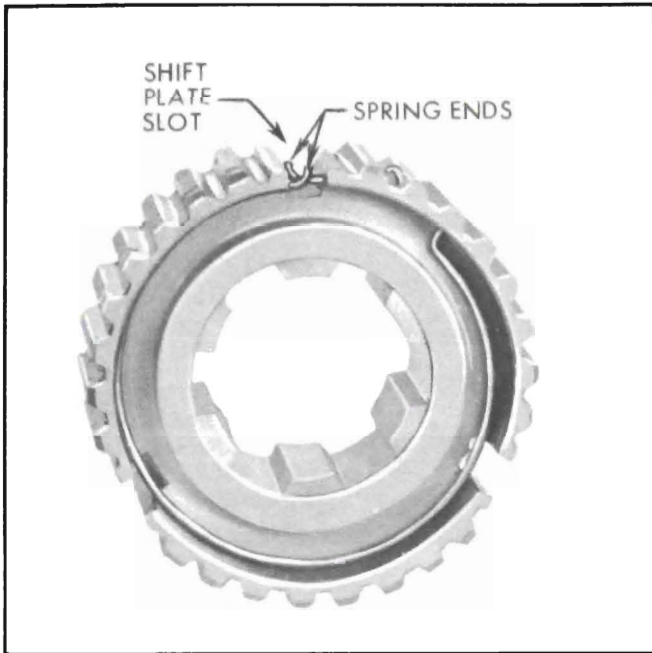

Figure 4-21—Installing Synchronizer Springs
1. Install springs solidly in recesses on both ends of synchronizer hub. One end of both springs should be located in same shift plate slot so that springs will extend in opposite directions from each other. Install shift plate directly over these ends. See Figure 4-21.